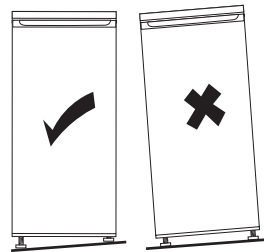

Fig. 2
If the appliance tilts in some way, adjust the height of the left/right foot (4) of the appliance to be in a horizontal level (→ Fig. 2).